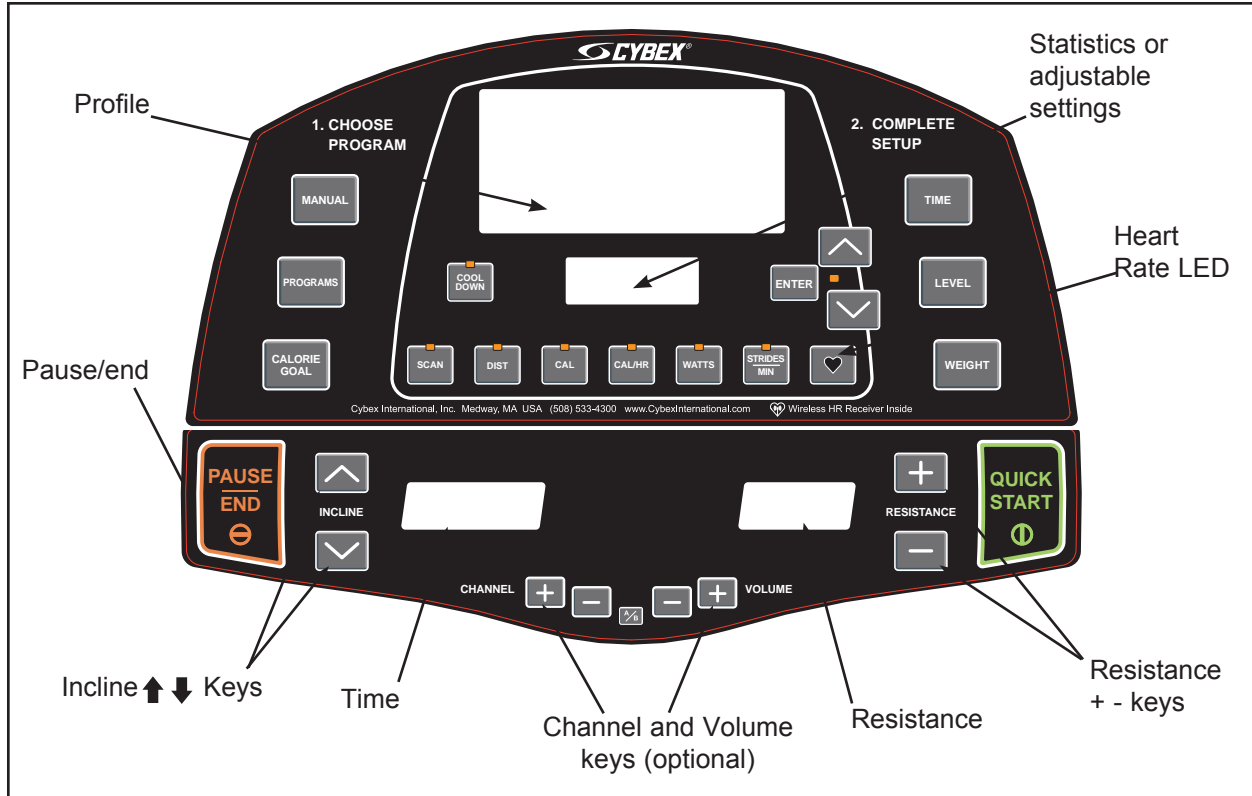

Figure 1 (AV Option)
4. The unit begins a countdown, "3...2...1" and sounds a tone for each count. When it reaches one (1) it gives a longer tone. Depending on which program and level you selected, the resistance may begin to increase and the incline may rise or fall.
5. Observe the four displays. (See Figure 1):
NOTE: Heart Rate is scanned only when you are holding the contact heart rate grips or using Polar compatible heart rate transmitter. See Figure 1.